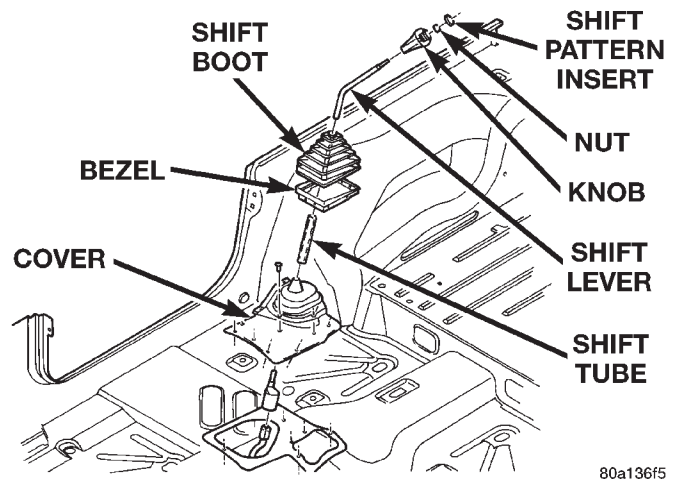

Fig. 63 Shift Boot
- (1) Using a trim stick, pry the shift boot from the bezel.
- (2) Using a small flat blade, pry the shift pattern insert from the shift knob.
- (3) Remove the nut attaching the shift knob to the shift lever (Fig. 63).
- (4) Remove the knob and slide the shift boot from the shift lever.